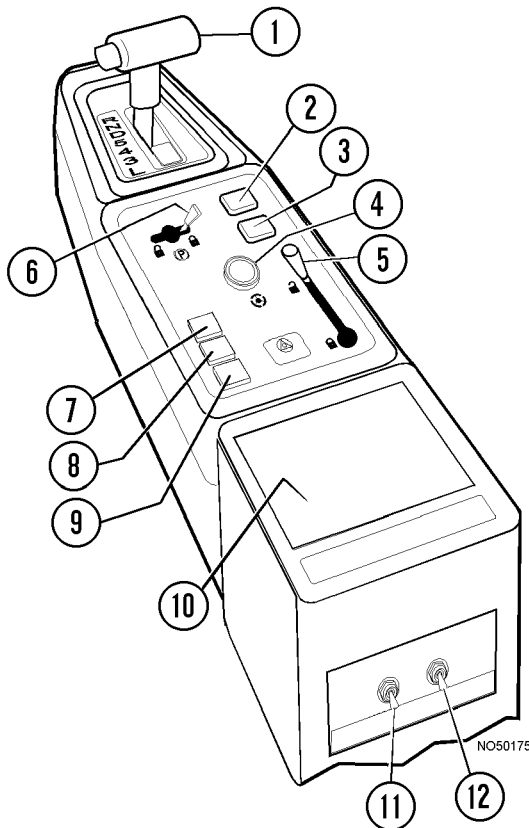

FIGURE 32-2. CENTER CONSOLE
Transmission Range Selector (1, Figure 32-2)
Shift Limiter Switch (2, Figure 32-2)
Economy / Power Mode Switch (3, Figure 32-2)
Emergency Steering Switch (4, Figure 32-2)
Emergency Brake Lever (5, Figure 32-2)
- Immediately after stopping, move parking brake lever (6, Figure 32-2) to the APPLIED/LOCKED position, then place blocks around all wheels to secure the machine.
Parking Brake Valve Lever (6, Figure 32-2)
The following items (7, 8, 9, 11, & 12, Figure 32-2) relate to the engine electronic fuel control system.